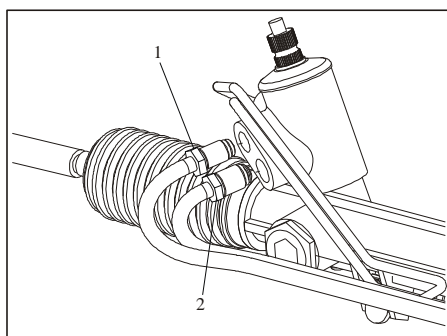

Figure 6-19 Disassembly of inlet and outlet pipe for steering gear
1. Cut off the connection between inlet and outlet pipes for steering gear as shown in Figure 6-19.